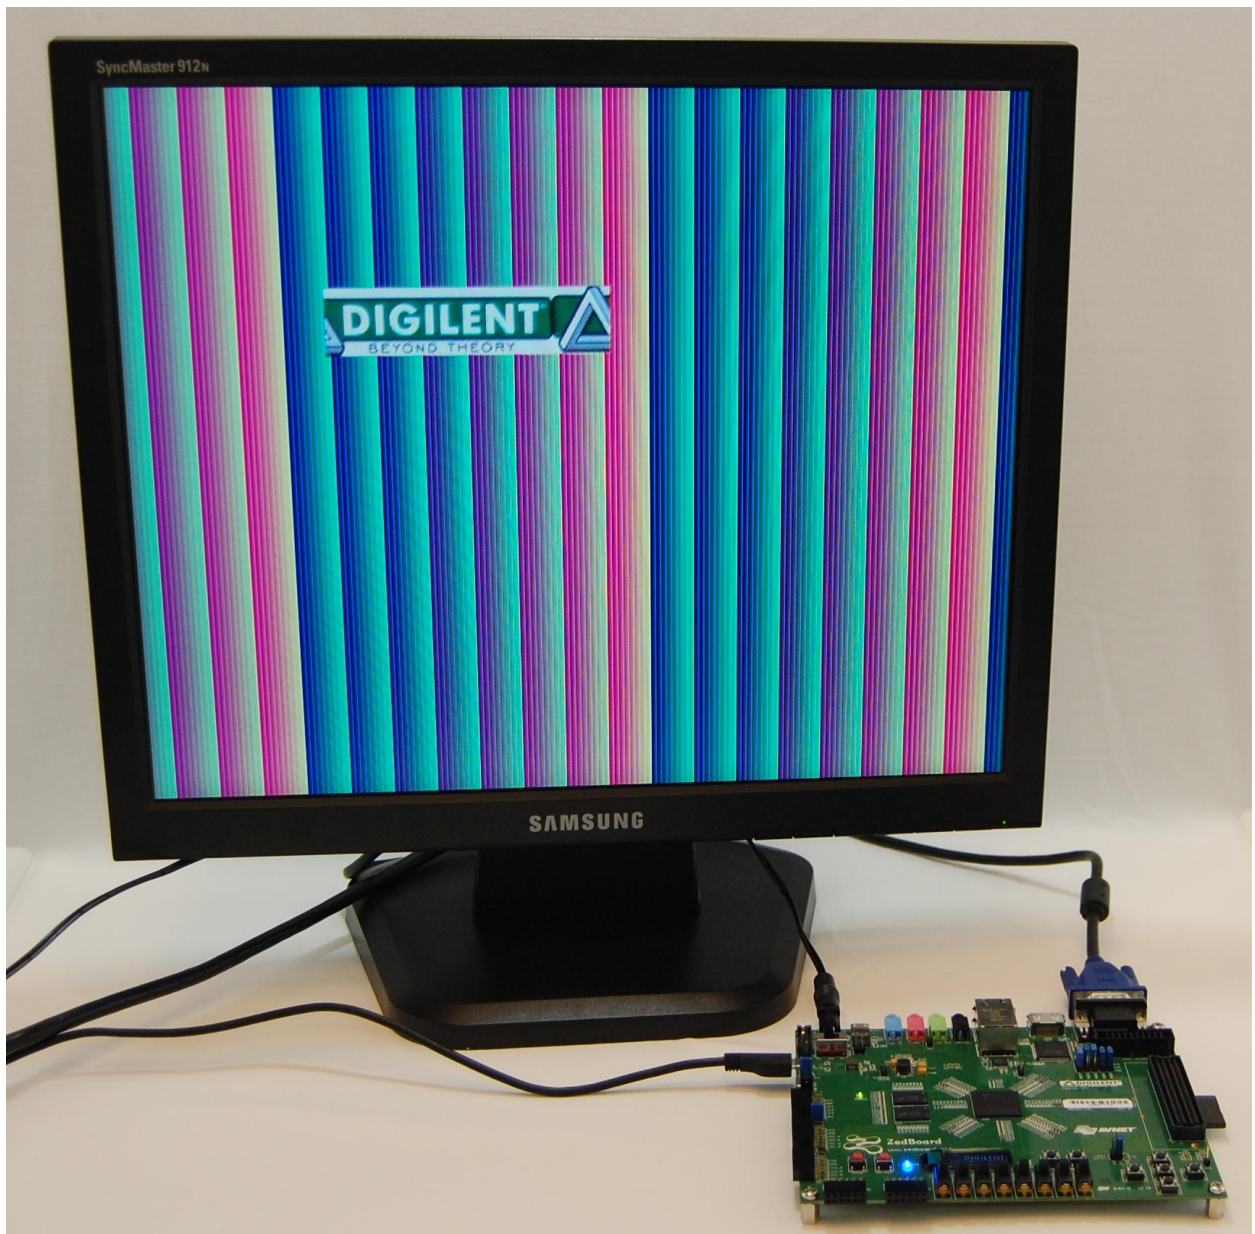

Figure 11 – VGA Output Test Pattern
4. Wait approximately 15 seconds. The blue Done LED (LD12) should illuminate, and a default image will be displayed on the OLED (DISP1). The VGA test pattern will also show on the display as seen in Figure 11.